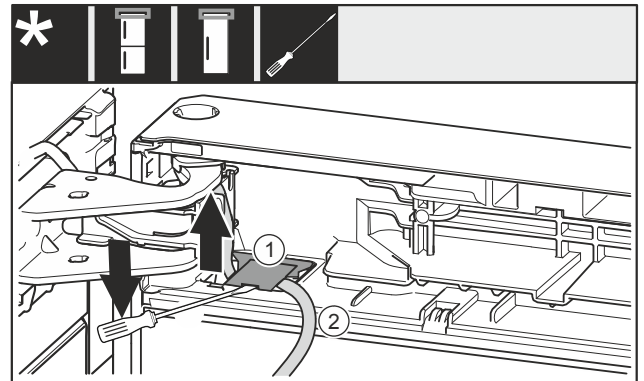

Fig. 20
- ▶ Use the screwdriver to lift up the cover Fig. 20 (1) and pull it out.
- ▶ Pull out the cable Fig. 20 (2).